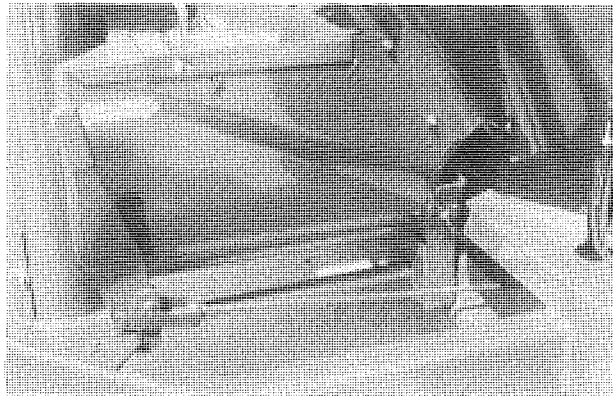

FIGURE 11 - MECHANICAL CLUTCH OPERATION
**MECHANICAL CLUTCH DRIVE:** (see figures 11 & 12) Move the clutch handle ahead and down to engage the augers. Open the unloading door. When tank is unloaded, reverse procedure.